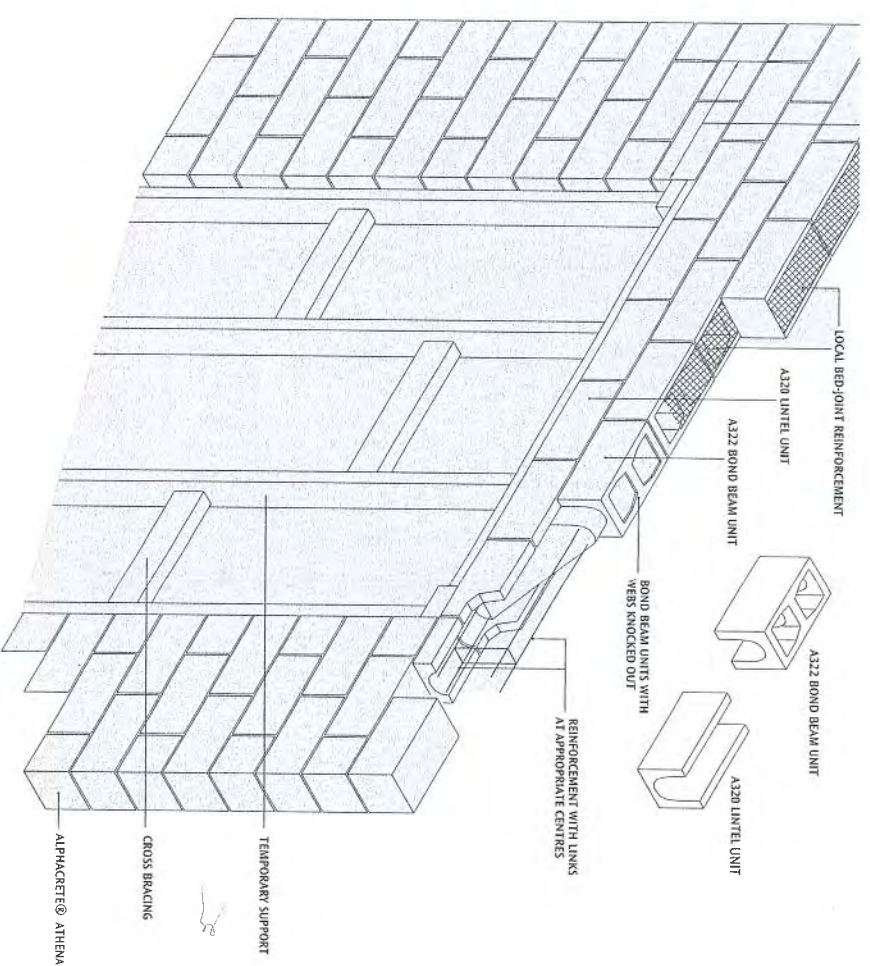

Figure 17 Two Course Lintel
- as single or double course lintels. Figure 17 indicates how a two course lintel is constructed.